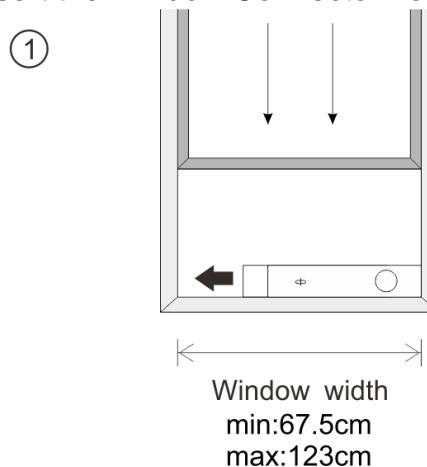

Fig.10
The installation manner of window slider kit is mostly in “horizontal” and “vertical”. As shown **Fig.10** and **Fig.10a**, check the min. and max. size of the window before the installation.
- Install the window kit on the window (**Fig.10**, **Fig.10a**);